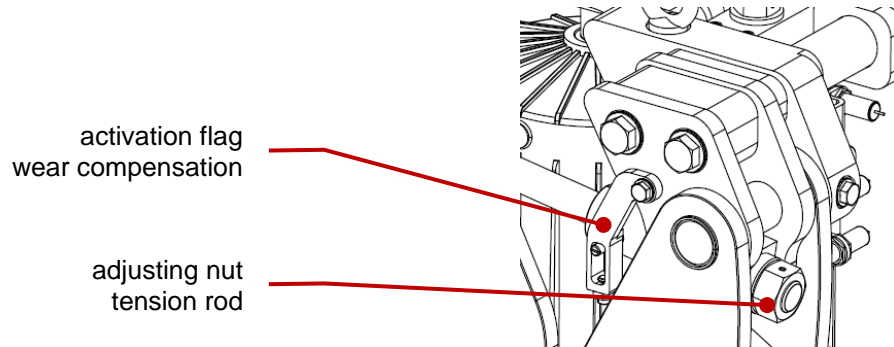

Fig. 9: adjustment wear compensation
- Dismantle the activation flag of the wear compensation (see Fig. 9).